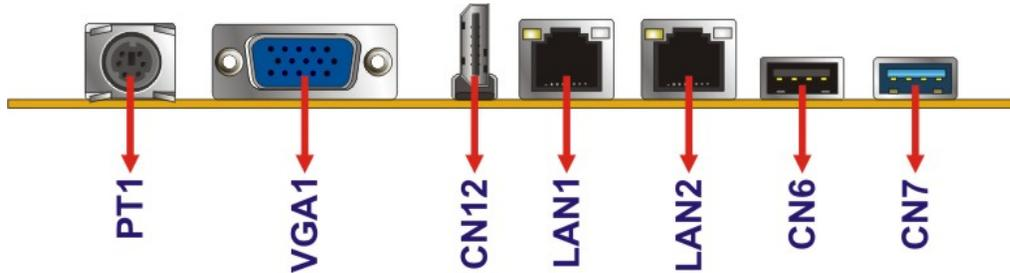

Figure 3-32: External Peripheral Interface Connector
- CN Location:** See Figure 3-32
- CN Location:** See **Figure 3-32**
CN Location: See **Figure 3-32**